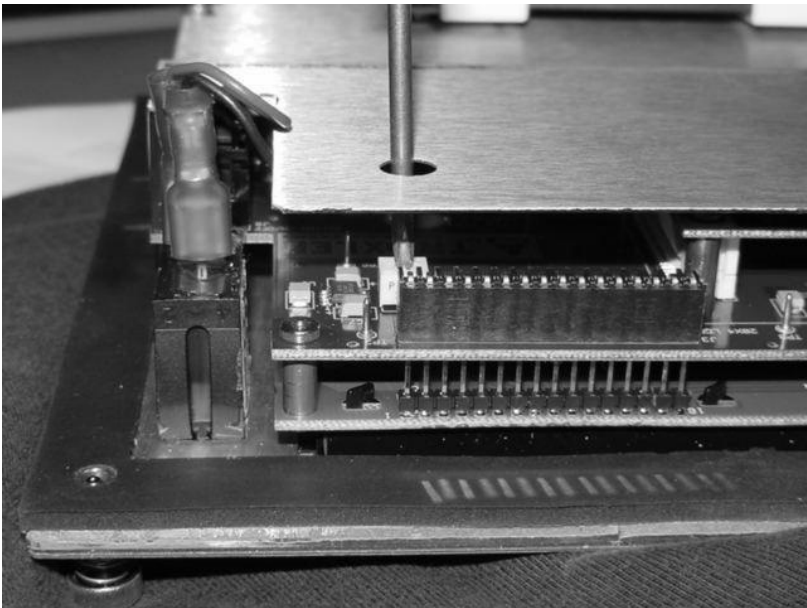

Figure C-1. Adjusting the Display Contrast
- ✓ As shown in Figure C-1, an adjustment potentiometer for the display contrast is located inside an access hole in the back panel of the control unit.